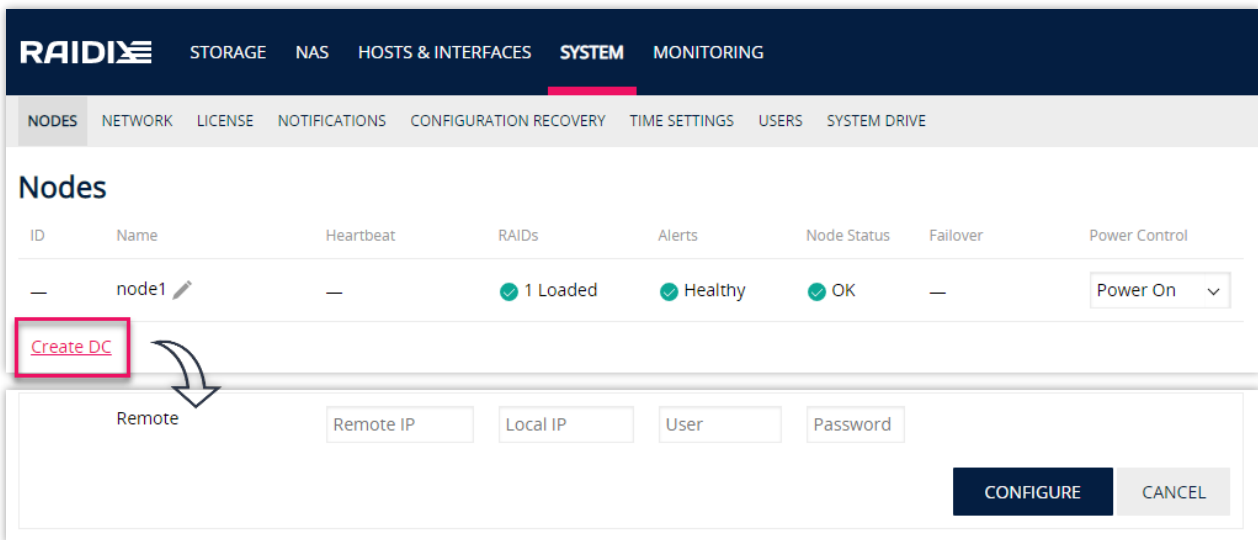

Figure 33. NODES page in SC
- 3.2. Click **Create DC**. The widget to add the remote node settings opens (Figure 33).